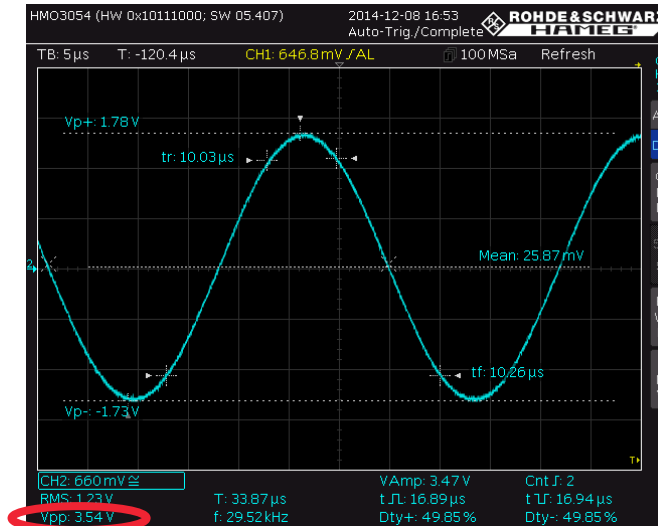

Fig. 2-42: Measured output voltage on the lowpass at the cutoff frequency.
- As described in Section 1.1, the following relationship exists for the output voltage at the cutoff frequency: $u_{out} = \frac{u_{in}}{\sqrt{2}}$. For this example, that calculates out to: $u_{out} = \frac{4.99V}{\sqrt{2}} = 3.528V$. As seen in Fig. 2-42, the calculated value matches very well with the measured output voltage of 3.54 V.